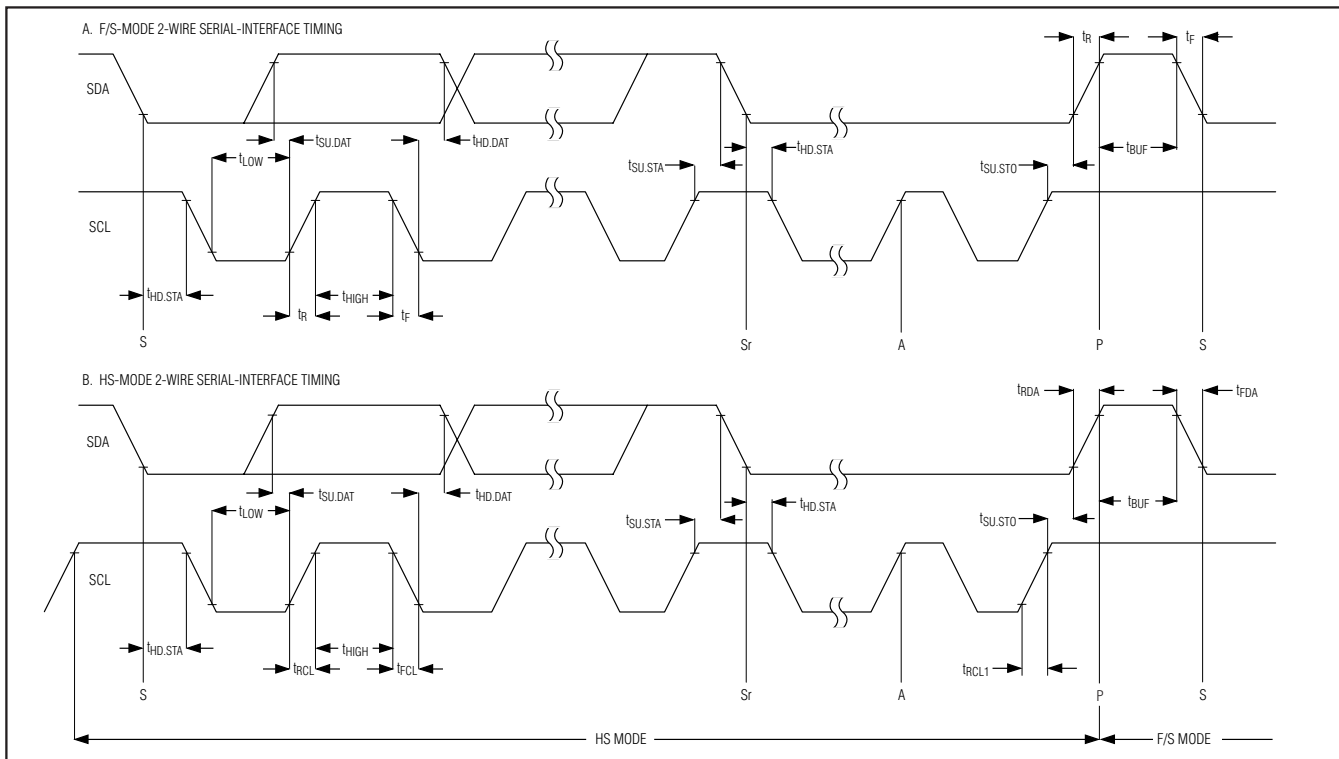

Figure 1. 2-Wire Serial-Interface Timing
## TIMING CHARACTERISTICS (Figure 1)
## TIMING CHARACTERISTICS (Figure 1) (continued)
**Note 11:** A master device must provide a data hold time for SDA (referred to VIL of SCL) to bridge the undefined region of SCL's falling edge (see Figure 1).
At power-up, the MAX11612-MAX11617 bus timing is set for fast-mode (F/S mode), which allows conversion rates up to 22.2ksps. The MAX11612-MAX11617 must operate in high-speed mode (HS mode) to achieve conversion rates up to 94.4ksps. Figure 1 shows the bus timing for the MAX11612-MAX11617's 2-wire interface.